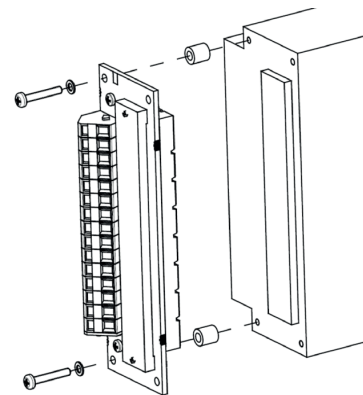

Fig. 45
- Cage clamp adapter HZZ00144-G; see fig. 45